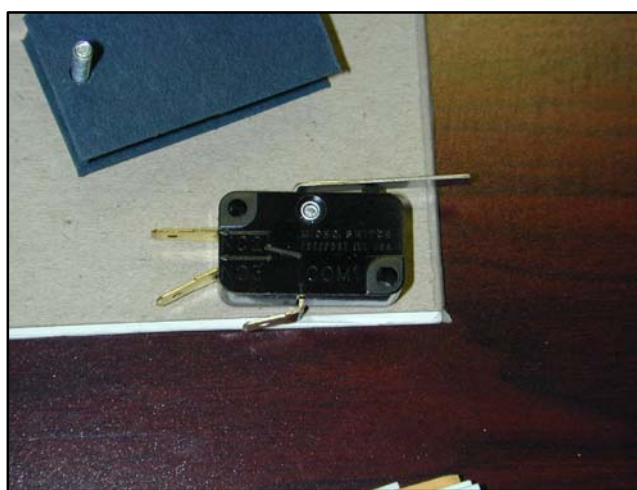

Figure 7-47 Microswitch
9. Remove the suspect microswitch. See Figure 7-47.